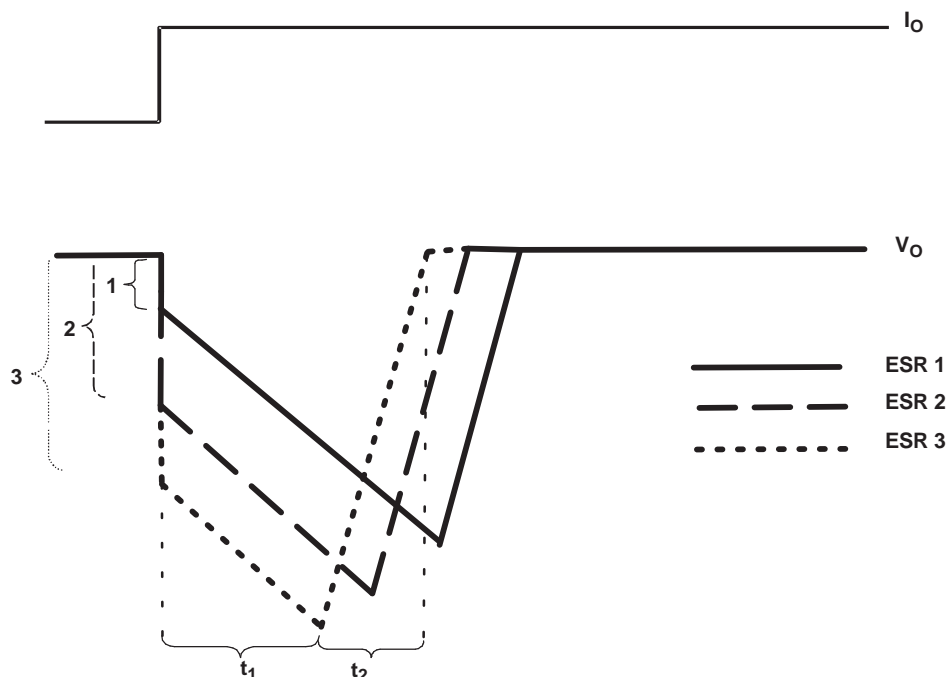

Figure 35. Correlation of Different ESRs and Their Influence on the Regulation of V_O at a Load Step from Low-to-High Output Current
- When C_O is conducting current to the load, initial voltage at the load will be $V_O = V_{(CO)} - V_{ESR}$. Due to the discharge of C_O , the output voltage V_O drops continuously until the response time t_1 of the LDO is reached and the LDO resumes supplying the load. From this point, the output voltage starts rising again until it reaches the regulated voltage. This period is shown as t_2 in Figure 35.
Figure 35 also shows the impact of different ESRs on the output voltage. The left brackets show different levels of ESRs where number 1 displays the lowest and number 3 displays the highest ESR.